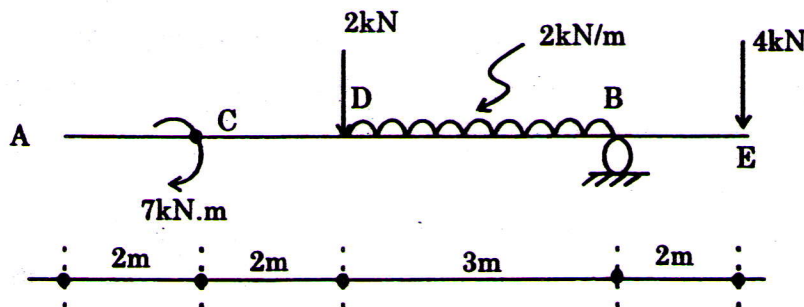

Fig. 3.
- IV. (a) Determine the slope at point B, and deflections at C and D of the beam shown in the Fig. 3. below :